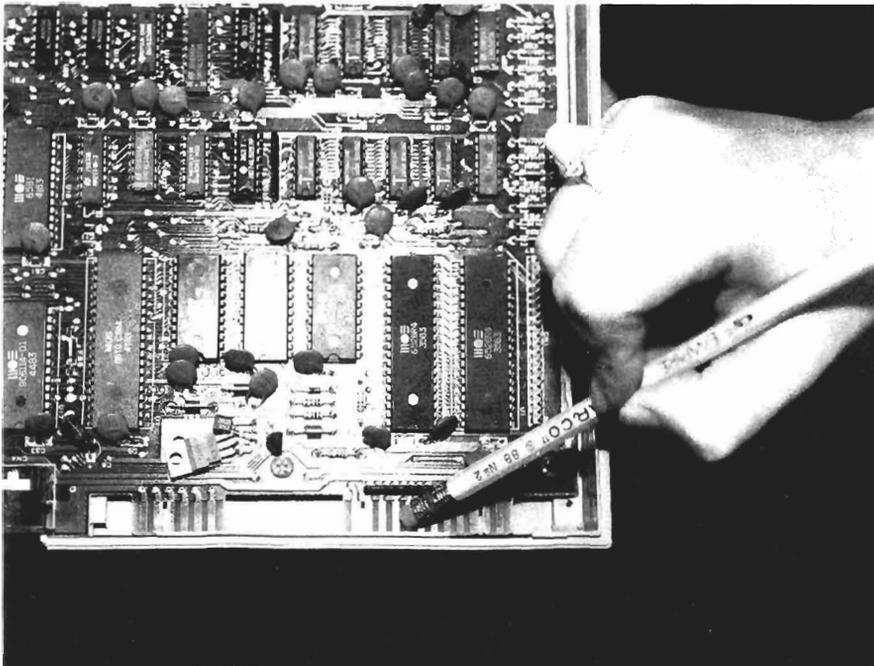

Fig. 2-6. Erasing oxidation.
7. If there is oxidation, remove it with a pencil eraser (Fig. 2-6). You can also use an emery cloth, very fine sandpaper (400-800 grit), or a lint-free cloth moistened with isopropyl alcohol.